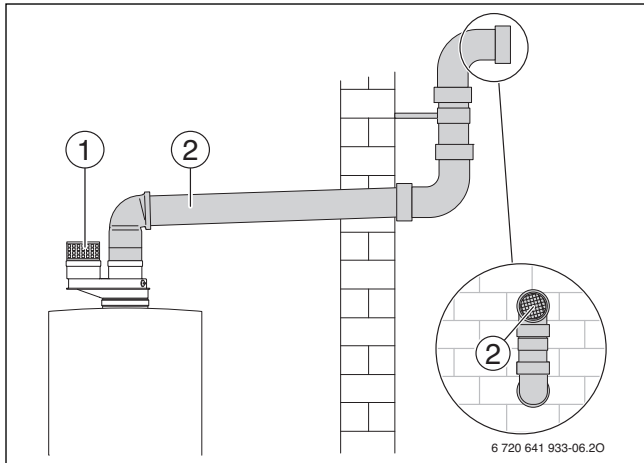
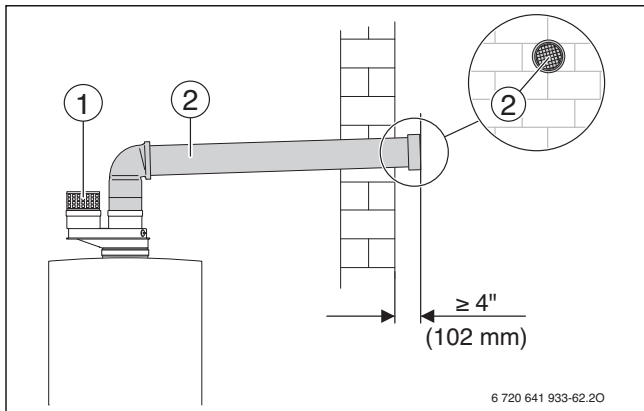

Fig. 32 Horizontal venting system (room air only)
Fig. 33 Horizontal venting system (room air only)
**Key to Fig. 32 and Fig. 33:**
Installations → Fig. 32, 33, 34, 36, 37 and 39